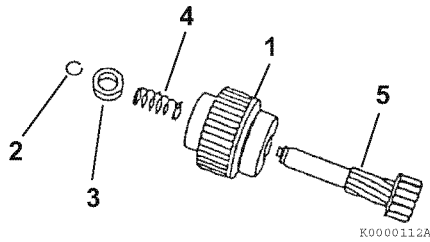

Figure 11-27
1. Apply the appropriate starter bendix grease (obtain locally) to the pinion shaft. Reassemble the pinion shaft (**Figure 11-27, (5)**), pinion clutch assembly (**Figure 11-27, (1)**), return spring (**Figure 11-27, (4)**) and pinion stop (**Figure 11-27, (3)**). Reinstall the retaining ring (**Figure 11-27, (2)**) in the groove in the pinion shaft. Slide the piston stop over the retaining ring.